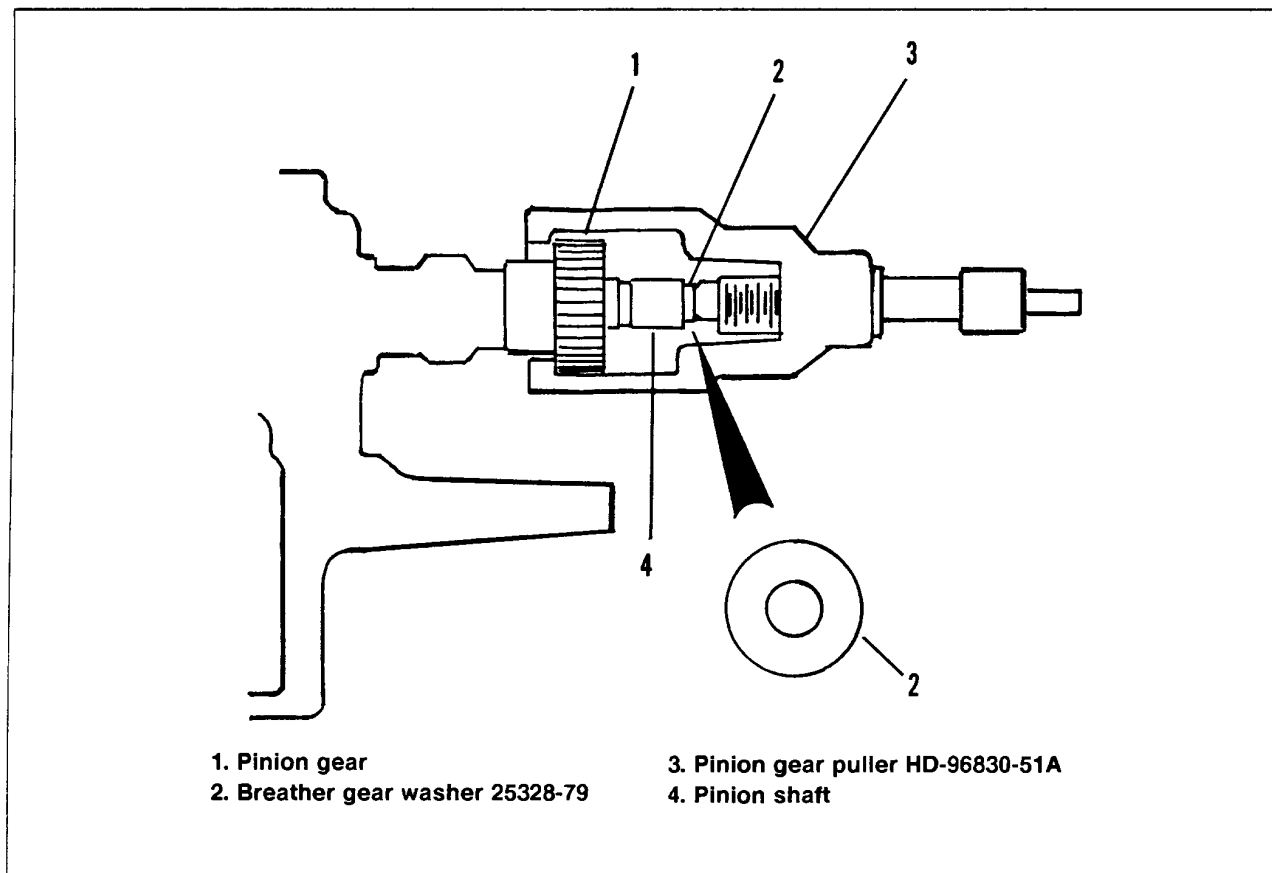

Figure 1. Pulling Pinion Gear
See Figure 1. Our immediate concern is any pulling operation which involves pressing against the end of the pinion shaft. An example is the removal of pinion gear (1). Due to the angle of the internal chamfer at the end of pinion shaft (4) there is concern that if the chamfered end of the spindle of tool (3), Part No. HD-96830-51A, were to be turned directly into the internal chamfer of pinion shaft (4) the end of the shaft may become slightly flared.